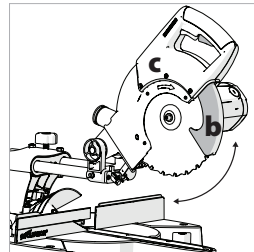

Fig. 38b & c
- Rotate the retractable lower blade guard **(Fig. 38b)** up and into the upper blade guard. **(Fig. 38c)**.